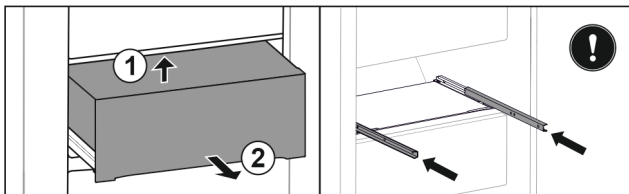

Fig. 37
- ▶ Lift drawer from below. Fig. 37 (1)
- ▶ Remove drawer to the front. Fig. 37 (2)